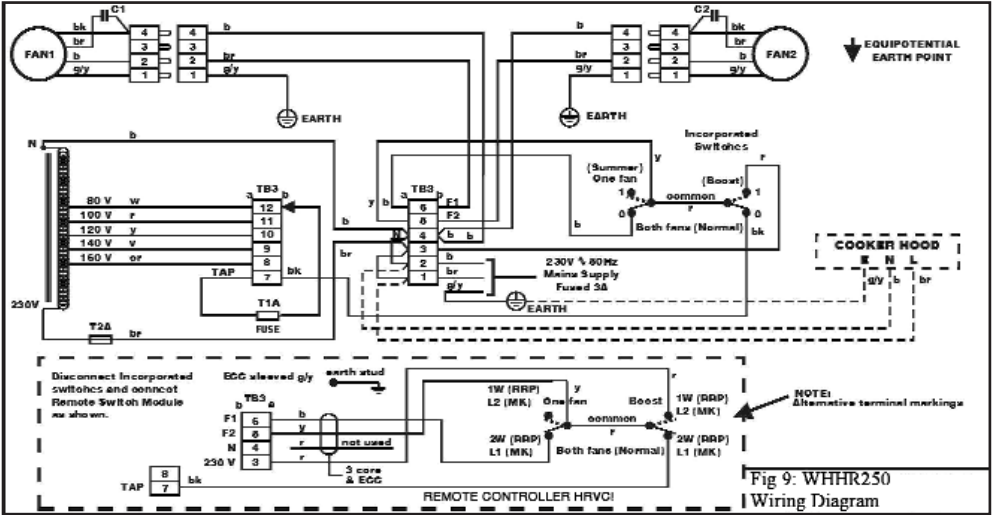

Fig 9: WHHR250
2.9.6 Referring to Fig. 9, connect the canopy electrical cable as follows: